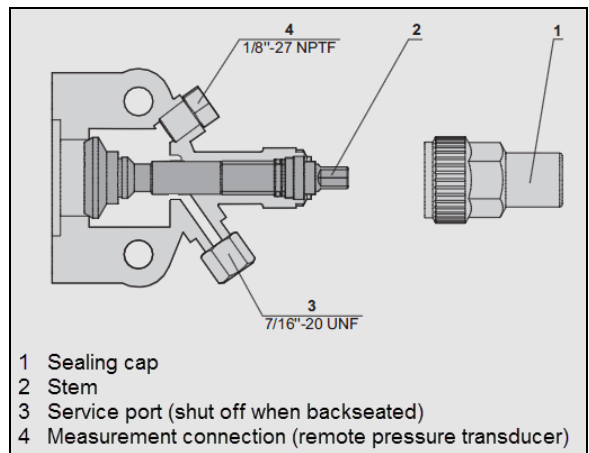

FIGURE 97: COMPRESSOR SHUT-OFF VALVE IN FRONT SEATED POSITION
3. Close (frontseat) the receiver tank outlet shutoff valve by turning the stem clockwise (Figure 63 and Figure 97).
11. Close (frontseat) the suction shutoff valve on the compressor (Figure 97).